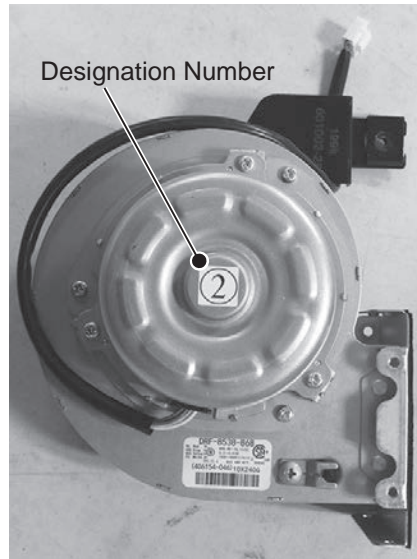

Figure 52 - Fan designation number
**IMPORTANT!** Note the fan designation number provided on the label located in the center of the fan assembly. This fan designation number will be used later to properly configure the water heater. See Figure 52.
- 18** Configure water heater setting **C04** to match the fan designation number on the fan assembly recorded in **Step 3**. See Figure 52 as reference.